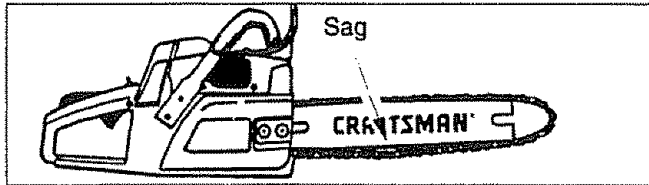

Figure 29
- If chain is too loose, it will sag below the guide bar. Figure 29.